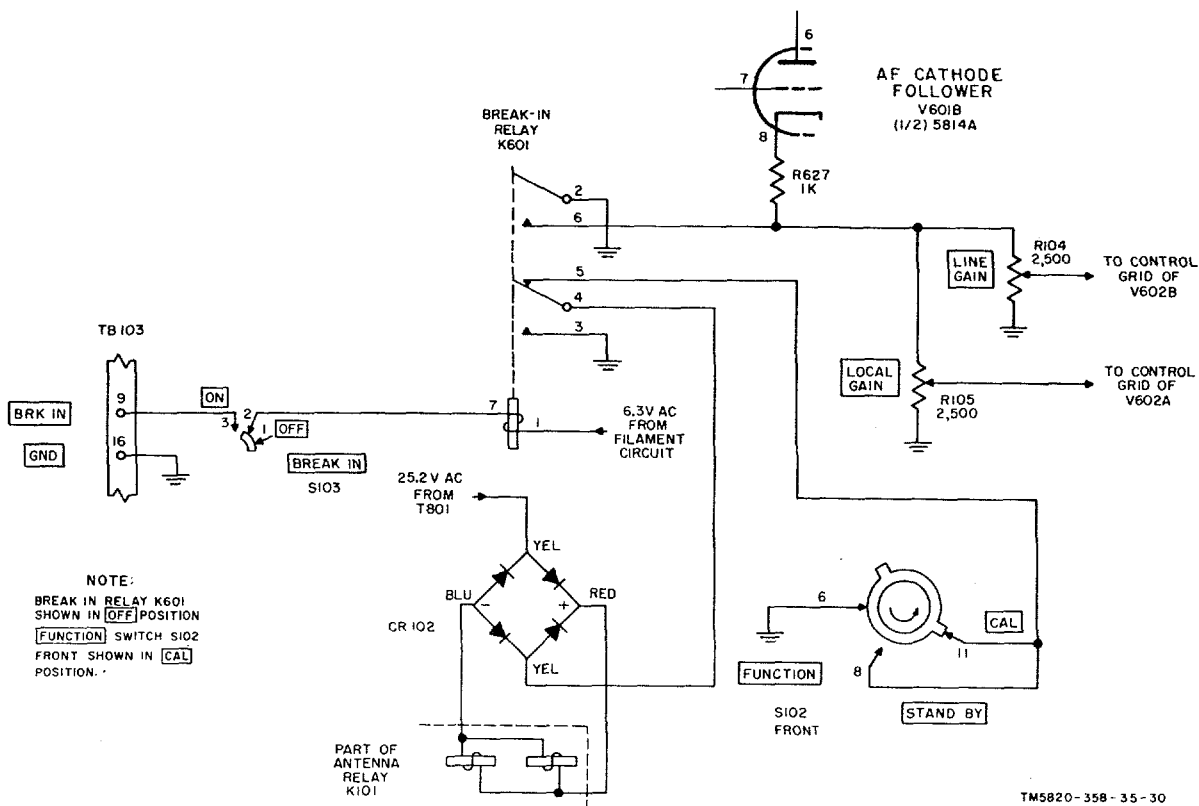

Figure 26. Break-in circuit, simplified schematic diagram.
connected to ground through cathode resistor R627, in series with parallel-connected potentiometers R104 and R105. These are respectively the LINE GAIN and the LOCAL GAIN controls on the receiver front panel. The line audio signals are taken from the arm of potentiometer R104 through coupling capacitor C607 to the control grid of line af amplifier V602B. Local audio signals are fed from the arm of potentiometer R105 through coupling capacitor C604 to the control grid of local af amplifier V602A. Grid return resistor R608 of af cathode follower V601B is connected from the control grid to the junction of R627 and the parallel combination of the LOCAL GAIN and LINE GAIN controls. Sufficient cathode bias prevents excessive plate current from flowing when the BREAK IN switch (fig. 26) causes the contacts of relay K601 to close and ground the lower end of R627. When S104 is in the WIDE position, capacitor C601 and resistor R602 feed the audio signal present at the junction of R627, R608, R104, and R105 to the control grid of the first af amplifier through S104 terminals 4 and 6. This introduces negative feedback into the V601A circuit and reduces the gain of this stage approximately 5 db. This loss of gain is comparable to the loss in FL601 in the SHARP position. The negative feedback also reduces distortion in these two stages.
26. Break-In Circuit (fig. 26)